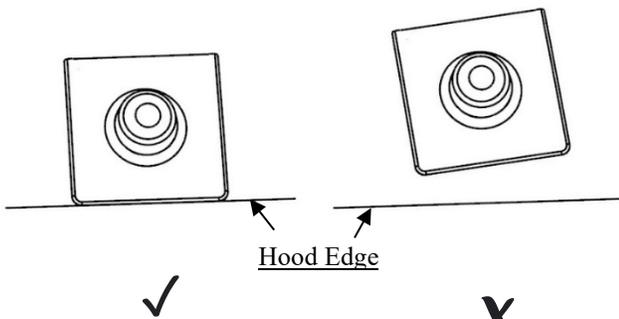

Fig 7
- ⚠ Attention: Pedestals must be installed directly on hood edge. (Fig 7)